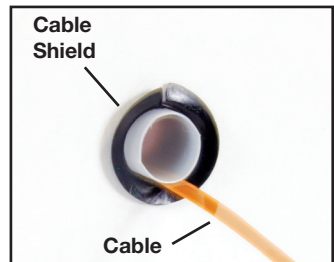

Figure 4 - Insert cable shield from front side
8. Insert the second cable shield into the spindle hole from the front of the container with the cable feeding through the center of it. (See Figure 4.)